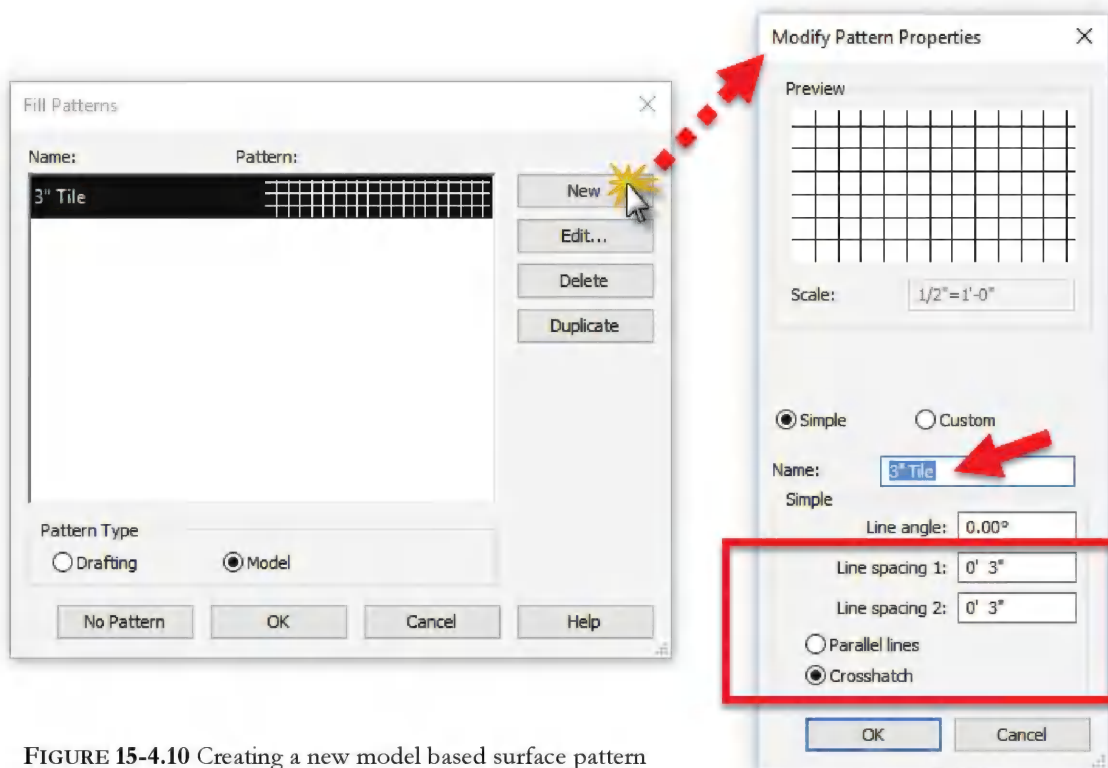

FIGURE 15-4.10 Creating a new model based surface pattern
20. Select **Model** for *Pattern Type* and then follow the steps shown in Figure 15-4.10 to create a new “Model” based *Fill Pattern* named **3" Tile**.